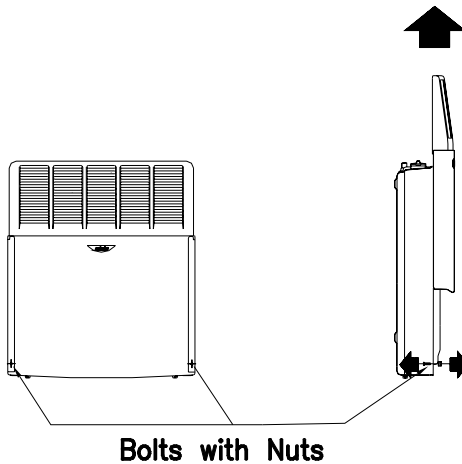

Fig. 3
- Separate the front panel of the appliance by removing the two nuts at the bottom and slide it up. See figure 3